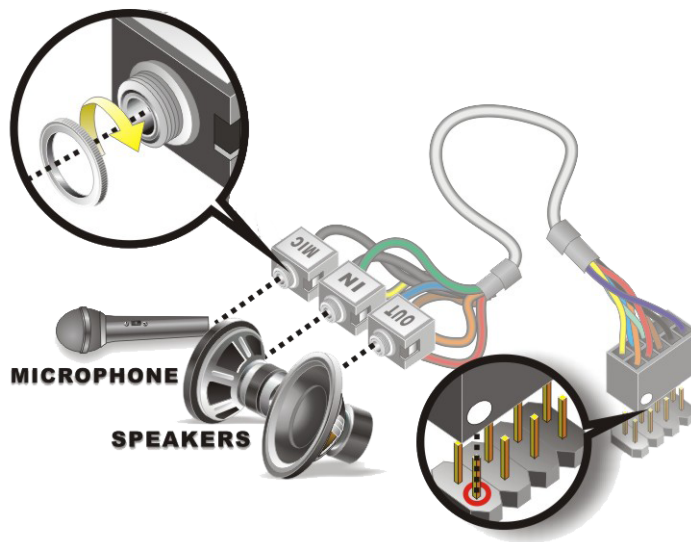

Figure 5-10: Audio Kit Cable Connection
Step 2: Align pin 1. Align pin 1 on the on-board connector with pin 1 on the audio kit connector. Pin 1 on the audio kit connector is indicated with a white dot. See **Figure 5-10**.